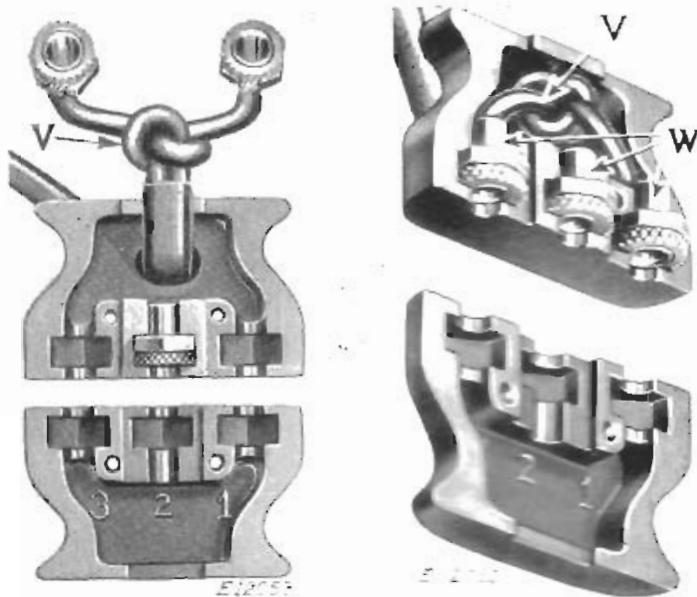
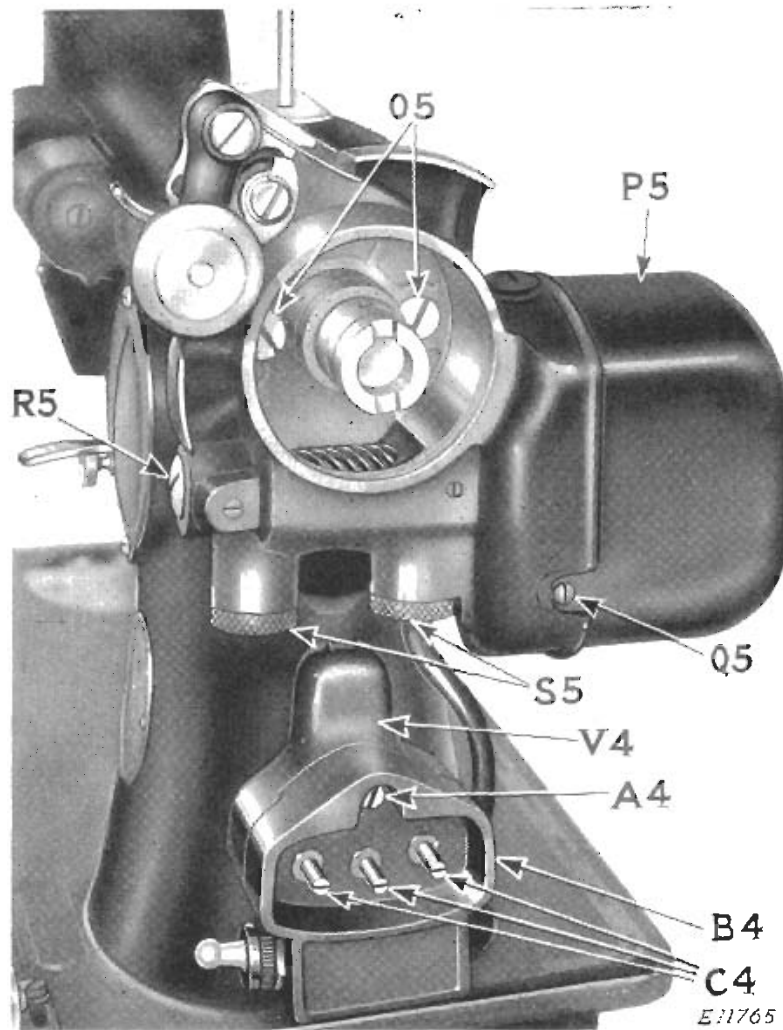
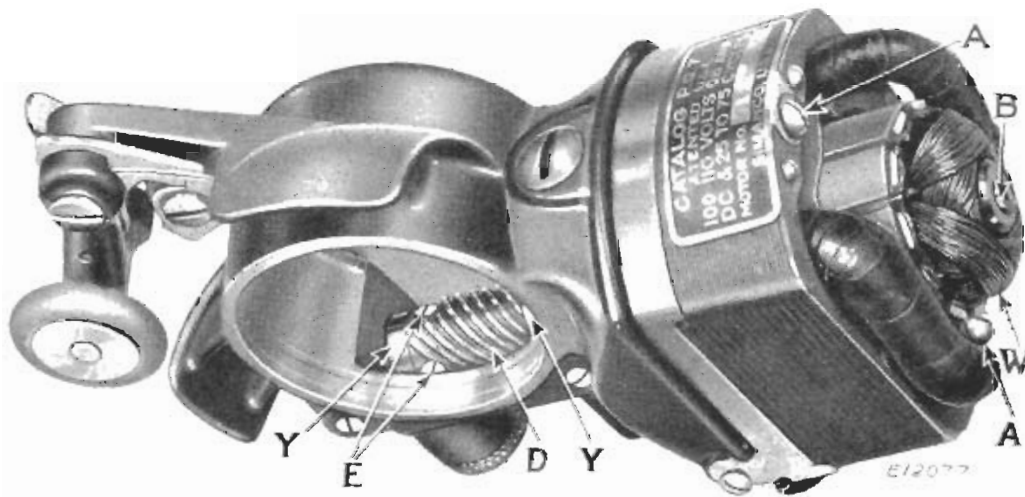
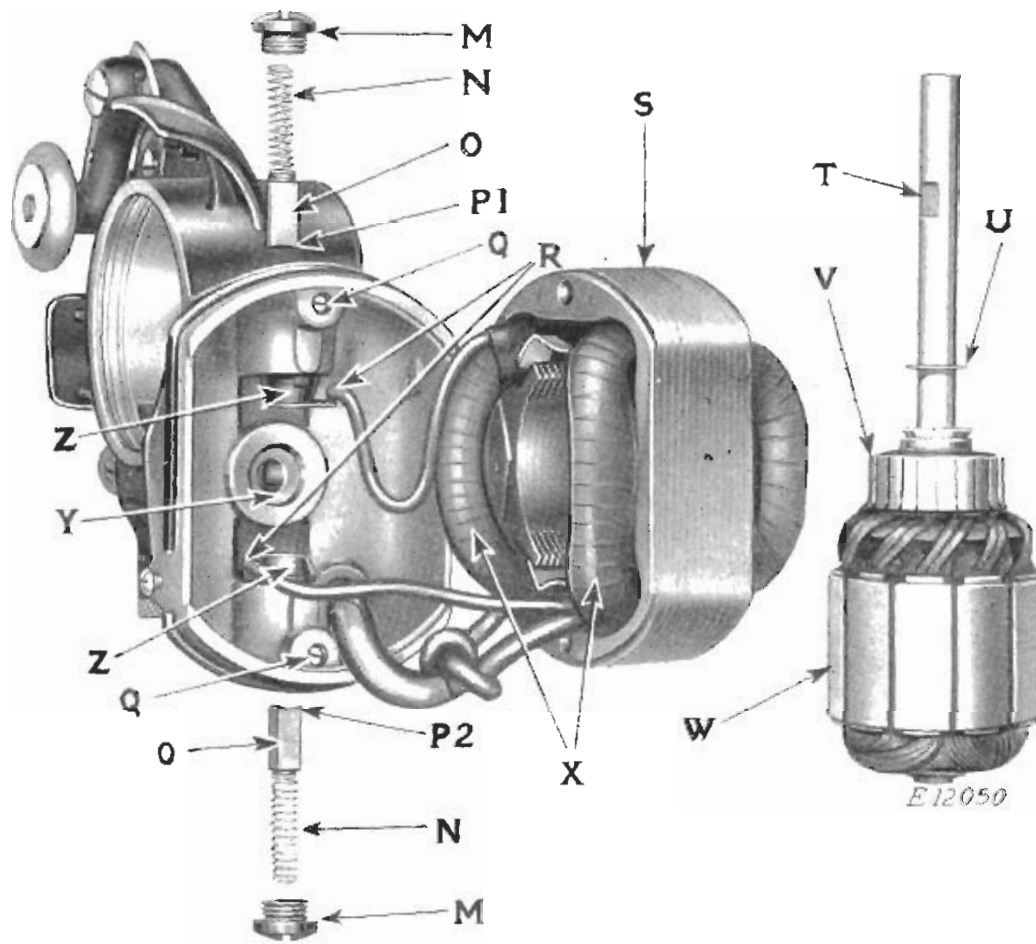

FIG. 13
FIG. 15. MACHINE 201-2 AND MOTOR
FIG. 16. MOTOR WITH COVER REMOVED
FIG. 17. MOTOR DISASSEMBLED
Three-Pin Terminal Plug, shown in Figs. 13 and 14, has three sleeves (W, Fig. 14) which are engaged by the three pins (C4, Fig. 15) when the plug is pushed into the three-pin terminal block (B4, Fig. 15).
Note that the two wires are knotted together as shown by (V, Figs. 13 and 14). This is to prevent strain or breakage in case the plug is pulled from the three-pin terminal by grasping the wires instead of the plug. Therefore, the knot is placed so that it, instead of the connections, bears the strain when the plug is drawn from the terminal.
Take out screw (A4, Fig. 15) and remove the three-pin terminal (B4) from the terminal bracket (V4).
Remove Motor Cover. Loosen the two screws, one of which is shown at (Q5, Fig. 15) and remove motor cover (P5, Fig. 15) by pulling and, at the same time, rocking it up and down slightly, being careful to prevent inside of cover damaging the field coils.
Remove Brushes—Machine 201-2. Take out screw caps (M, Fig. 17). When the screw caps are removed, the brush springs may protrude from the screw holes, and brushes can then be easily withdrawn. However, should difficulty be experienced in removing the brushes, this can be done conveniently after removal of the armature in accordance with "Remove Armature" following. It is advisable to mark the brushes at (P1 and P2, Fig. 17) to make sure that they will be replaced in the same relative position as before removal.
screws (E, Fig. 16) in the spiral gear (D, Fig. 16) so that the armature shaft can be withdrawn from its bearings. Remove the armature (W, Fig. 16).
If wiring is not damaged, clean commutator (V, Fig. 17) with a dry, clean cloth before assembling motor. If it is impossible to get the commutator bright by this means, use an ordinary rubber eraser. **Never use anything else on a small motor commutator.**
Remove the Field Core with Coils—Machine 201-2. Loosen the two screws (A, Fig. 16) and remove the field core (S, Fig. 17) from the commutator end cover which, in this case, is part of the motor frame. The removal of the field core must be done carefully to prevent damage to the field coil insulation, and to prevent strain at the soldered brush tube connections (R, Fig. 17).
Clean Brushes and Brush Tubes—Machine 201-2. Thoroughly clean the carbon brushes (O, Fig. 17), inner walls of brush tubes and inside of end covers, with a dry, clean cloth.
Inspect Wire Connections to Brush Tubes—Machine 201-2. Examine both field wire connections (R, Fig. 17) at the brush tubes. If broken, these connections should be securely soldered to the lugs of the brush tubes. Any loose strands of wire should be cut off.
Remove and Replace Brush Tubes—Machine 201-2. After the brushes and brush tubes have been cleaned, the brushes should slide freely in the brush tubes. If they do not, the brush tubes should be replaced by new ones. The new brush tubes must be replaced in the same manner as the old tubes, viz., firmly positioned in the insulating bushings (Z, Fig. 17), and with the field leads properly soldered to the lugs of the new tubes, as shown by (R, Fig. 17).
Remove and Replace Insulating Bushings—Machine 201-2. If the threads in the insulating bushings (Z, Fig. 17) and on screw caps (M, Fig. 17) become stripped, these parts should be replaced by new ones. When these bushings require replacement, the brush tubes also should be replaced with new ones. Do not attempt to use the old brush tubes in the new bushings. Loosen the two screws at (Q, Fig. 17) to release the bushings (Z, Fig. 17). When the new bushings are in place, tighten the screws (Q, Fig. 17).
Replace the Field Core with Coils. After the insulating bushings are replaced, the field coil wires properly soldered to the brush tubes as shown at (R, Fig. 17) and brush tubes in place in insulating bushings (Z, Fig. 17), put field core (S, Fig. 17) in place on commutator end cover, being careful not to damage field coil insulation. When the field core is properly seated on commutator end cover, insert and tighten screws (A, Fig. 16).
When the armature was removed, as instructed on page 22, the spring-pressured grease wick for each of the two bearings (Y) projected into the shaft bearings. Therefore, before replacing the armature and shaft, remove the two grease wicks in order that armature shaft may be inserted in its bearings without damage to the wicks. To do this, remove cap screws (S5, Fig. 15) and, using a small screw driver, carefully remove the grease wick spring retainer, together with grease wick spring and grease wick from each grease cup.
Put the spiral gear in position between the two bronze shaft bearings (Y, Fig. 16), having the two set screws (E, Fig. 16) toward the cap screw (R5, Fig. 15) in order that one of the two screws (E) can engage the "flat" (T) on the armature shaft. Insert armature (W) so that the fibre washer (U) is against the first of the two shaft bearings (Y, Fig. 17).
When armature shaft is in place in its bearings and through spiral gear (D, Fig. 16), the "flat" (T), against which one of the two set screws (E, Fig. 16) is to be tightened, is covered. Its position is, however, indicated by the "flat" at (B, Fig. 16) at the cover end of the shaft. Be sure that one of the two screws (E, Fig. 16) engages the "flat" (T), then tighten both screws (E).
Replace the grease wicks, making sure that the inner ends of the wicks are against the armature shaft. Then put the grease wick spring retainers in place in the grease cups, having the tab, at the outer end of each retainer, over the outer end of the grease wick spring. Fill the grease cups and replace cap screws (S5, Fig. 15).
Replace Brushes—Machine 201-2. When inserting the brushes in the brush tubes, make sure that their concave ends (P1 and P2, Fig. 17) correspond with the convex surface of the commutator, and that they are replaced in the same relative position as before removal. See "Remove Brushes," page 22. Hold end of brush spring and tap the brush against the commutator until contact is clearly heard. Then insert and tighten the two screw caps (M, Fig. 17), being careful not to strip the threads.
Place the motor frame, with motor, on its seat on the machine arm, and insert and tighten the two screws (O5, Fig. 15). Fasten the three-pin terminal (B4) to its bracket (V4) by means of the screw (A4).
Remove the two cap screws (S5, Fig. 15) from the two grease cups and clean out the interiors of the cups. Insert the tip of the motor lubricant tube into the grease cups and squeeze about a quarter of the tube of lubricant into each grease cup, then replace and tighten the cap screws (S5, Fig. 15).
See Instructions and Figs. 13 and 14, page 20.